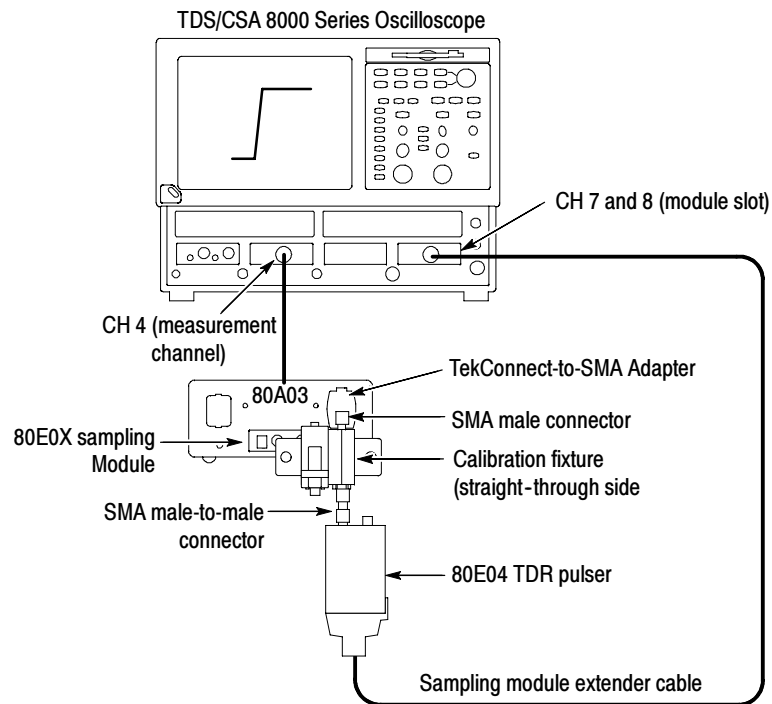

Figure 18: Test system rise time setup
1. Connect the test equipment as shown in Figure 18. Provide support under the 80E04 Pulser to avoid stressing the connectors.
8. Adjust the oscilloscope horizontal and vertical position controls to display a signal similar to that shown in Figure 18.